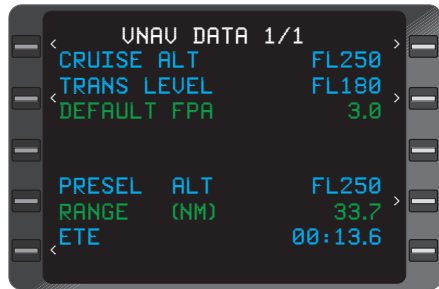

Figure 2-46
Manually entered cruise altitude in feet or Flight Level (FL). Any altitude entered greater than the transition level is converted and displayed as flight level (rounded off to the nearest hundred feet). An altitude less than 1000 feet must be entered with a preceding zero. (Figure 2-46)
Transition Level used to determine the altitude at which the system converts altitudes to Flight Levels. This field defaults to **FL180** if the pilot does not enter a value. (Figure 2-46)
entered in degrees and tenths (0.1 to 6.0 range) (Figure 2-46). **DEFAULT FPA** is used to calculate **#TOD** to the first altitude constraint on the Active Flight Plan. However an FPA must be entered on the VNAV waypoint page to establish a **PATH DESCENT** and for Vert Dev or vertical deviations to be valid.
If configured, Preselected Altitude input from system, in feet or Flight Level. (Figure 2-46)
If configured, Range to Pre-selected Altitude in nautical miles and tenths (0.0 to 999.9 range). (Figure 2-46)
If configured, the estimated time enroute to the Pre-selected Altitude in hours, minutes and tenths. (Figure 2-46)